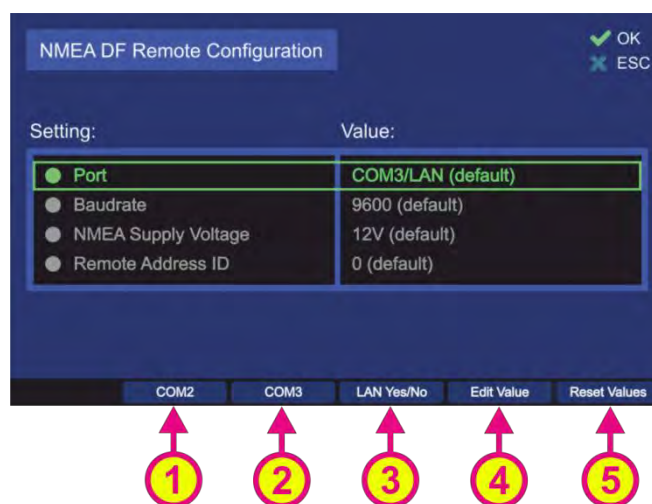
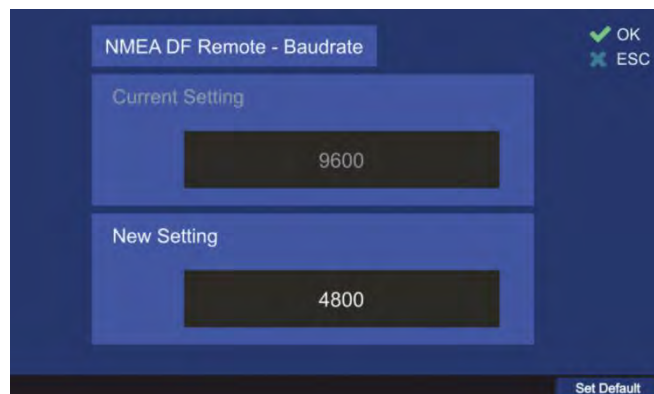

Figure 109. NMEA DF remote control configuration
Figure 111. Remote control baud rate configuration
- o Additionally, by choosing the combination "COMx¹ / LAN", the NMEA sentences will be also sent via the LAN connection (s. Figure 109, position 3).
Following sub-menu will appear (s. Figure 109).
Pressing the hotkey "Reset Values" (s. Figure 109, position 5) will set all menu items to default values. To exit the dialog confirming all changes that have been made within the sub-dialogs for single settings, press "OK".
- For changing the communication port, press either the hotkey "COMx" (s. Figure 109, positions 1 and 2) or the hotkey "Edit Value" while the menu item "Port" is marked (s. Figure 109, position 4).
- Pressing the hotkey "LAN Yes/No" (s. Figure 109, position 3) will turn on the additional communication over LAN (pressing this hotkey again will turn the LAN communication off, see also 7.4.4.2).
This setting will only set the corresponding communication port. Additional transmitting the NMEA sentences over LAN should be set in the top level menu (s. Figure 109, position 3).
- To change the baud rate, press the hotkey “Edit Value” while the menu item “Baudrate” is marked (s. Figure 109). The corresponding sub-dialog will be opened (s. Figure 111).